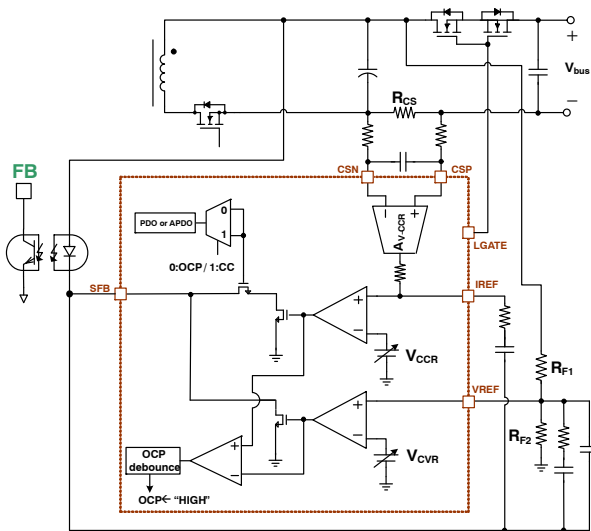
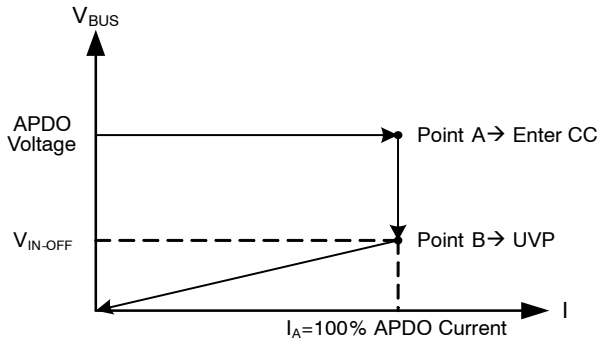

Figure 29. Voltage and Current Sensing Circuits
Figure 30. APDO CC Operation
In order to regulate adaptive output voltages, the constant voltage control (CV) is implemented. The output voltage is sensed through an external resistor divider. The sensed output voltage is connected to the VREF pin, and it is input the non-inverting input terminal of the internal operational amplifier. The inverting input terminal is connected to the internal voltage reference ( $V_{CVR}$ ) which can be adjusted according to the requested output voltage. The amplifier and an internal switch operate as a shunt regulator, and the output of the shunt regulator is connected to the external opto-coupler via SFB pin. To compensate output voltage regulation, typically, two capacitors and one resistor are connected between SFB and VREF pins as Figure 29. The output voltage can be derived as calculated by the Equation 1, and the ratio of the resistor divider is 10. The reference ( $V_{CVR}$ ) for the output voltage is generated by a 10-bit DAC. The minimum resolution is 20 mV to meet PD3.0 compliance spec.
Constant current (CC) control is enabled during USB PD contracts. When CC mode is enabled, the supply will foldback the output voltage as the load increases in order to maintain a fixed output current as shown in Figure 30. Output current is sensed via a current-sense resistor RCS, which is connected between the CSP and CSN pins. The sensed signal is internally amplified, and this amplified voltage is connected to the non-inverting input of the internal operational amplifier. Similar to the constant voltage amplifier circuit, it also plays a role as a shunt regulator to regulate the constant output current. In order to compensate output current regulation, one capacitor and one resistor are connected between the IREF and SFB pins as shown in Figure 29. The constant output current can be calculated using Equation 2. 5mΩ is typically used for the sense resistor.